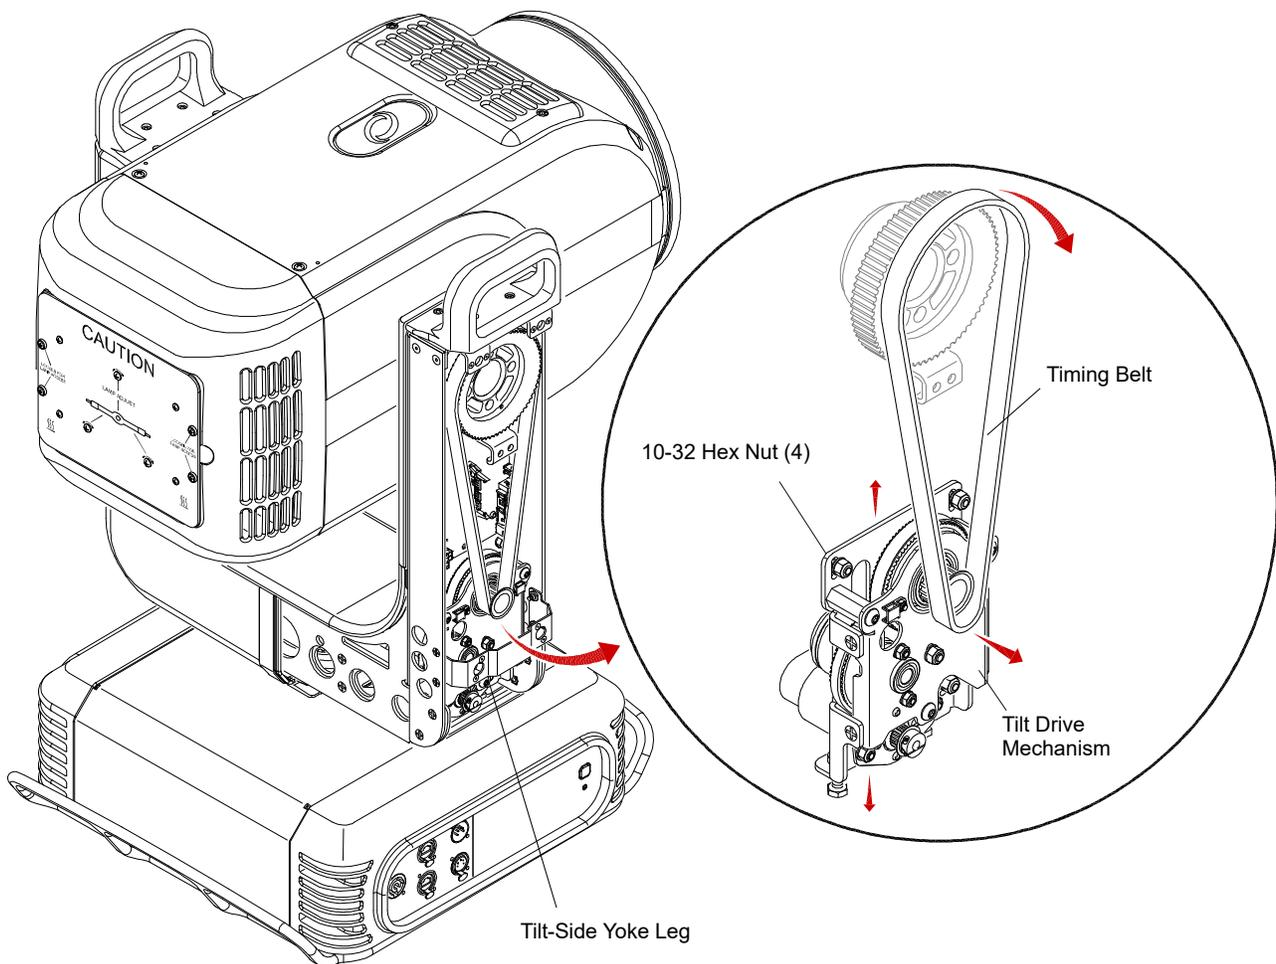

Figure 3-56: Removing Timing Belt
- Step 3. At Tilt Drive Mechanism, loosen four 10-32 hex nuts so that Timing Belt becomes loose (Figure 3-56).